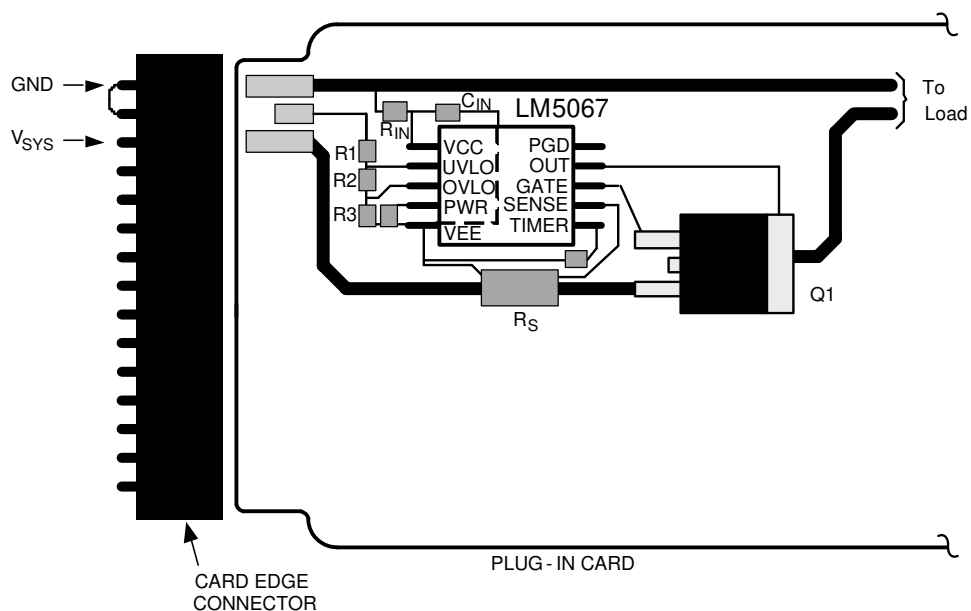

图 11-1. Suggested Board Connector Design
- The board's edge connector can be designed to shut off the LM5067 as the board is removed, before the supply voltage is disconnected from the LM5067. In Figure 11-1 the voltage at the UVLO/EN pin goes to VEE before V_{SYS} is removed from the LM5067 due to the shorter edge connector pin. When the board is inserted into the edge connector, the system voltage is applied to the LM5067's VEE and VCC pins before voltage is applied to the UVLO/EN pin.